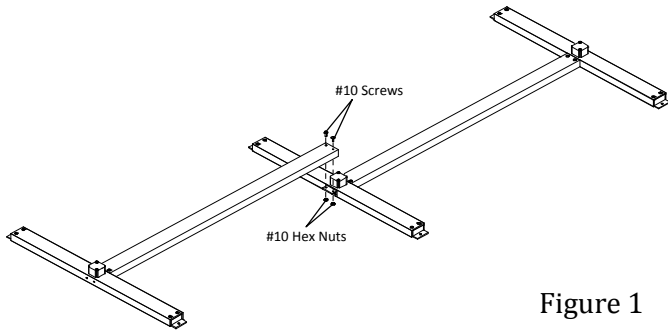

Figure 1
- Models TK-10 through TK-14 have a two piece base. Connect the sections using two #10 x 1/2 screws and hex nuts as shown in Figure 1.